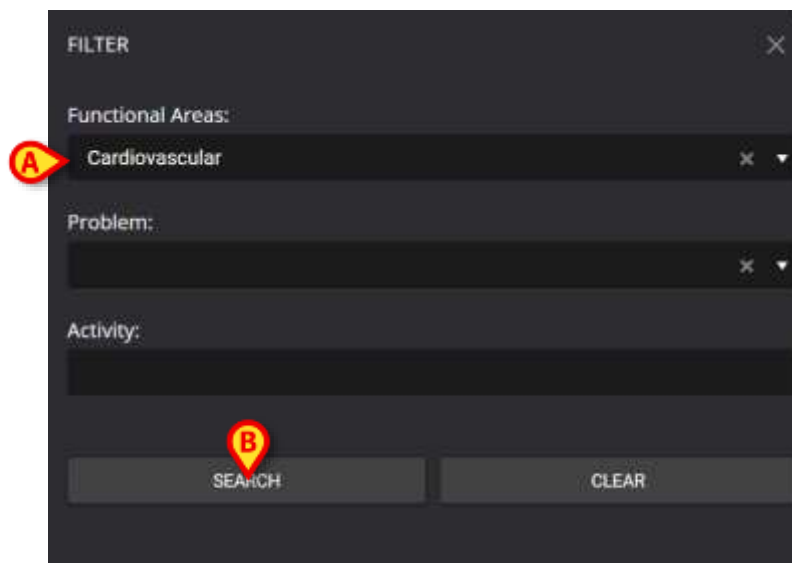

Fig 44
After the filters are defined (in Fig 44 **A**, for example, the “Cardiovascular” functional area is selected as filter):
- Click the **Search** button (Fig 44 **B**).